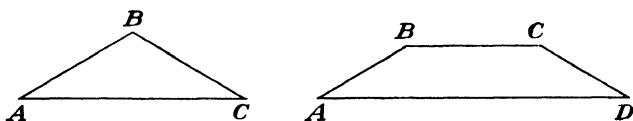

Fig. 128.
2. In your notebook draw any figures similar to Fig. 128. Construct triangle $A'B'C'$, each angle of which is equal to a corresponding angle of triangle ABC .